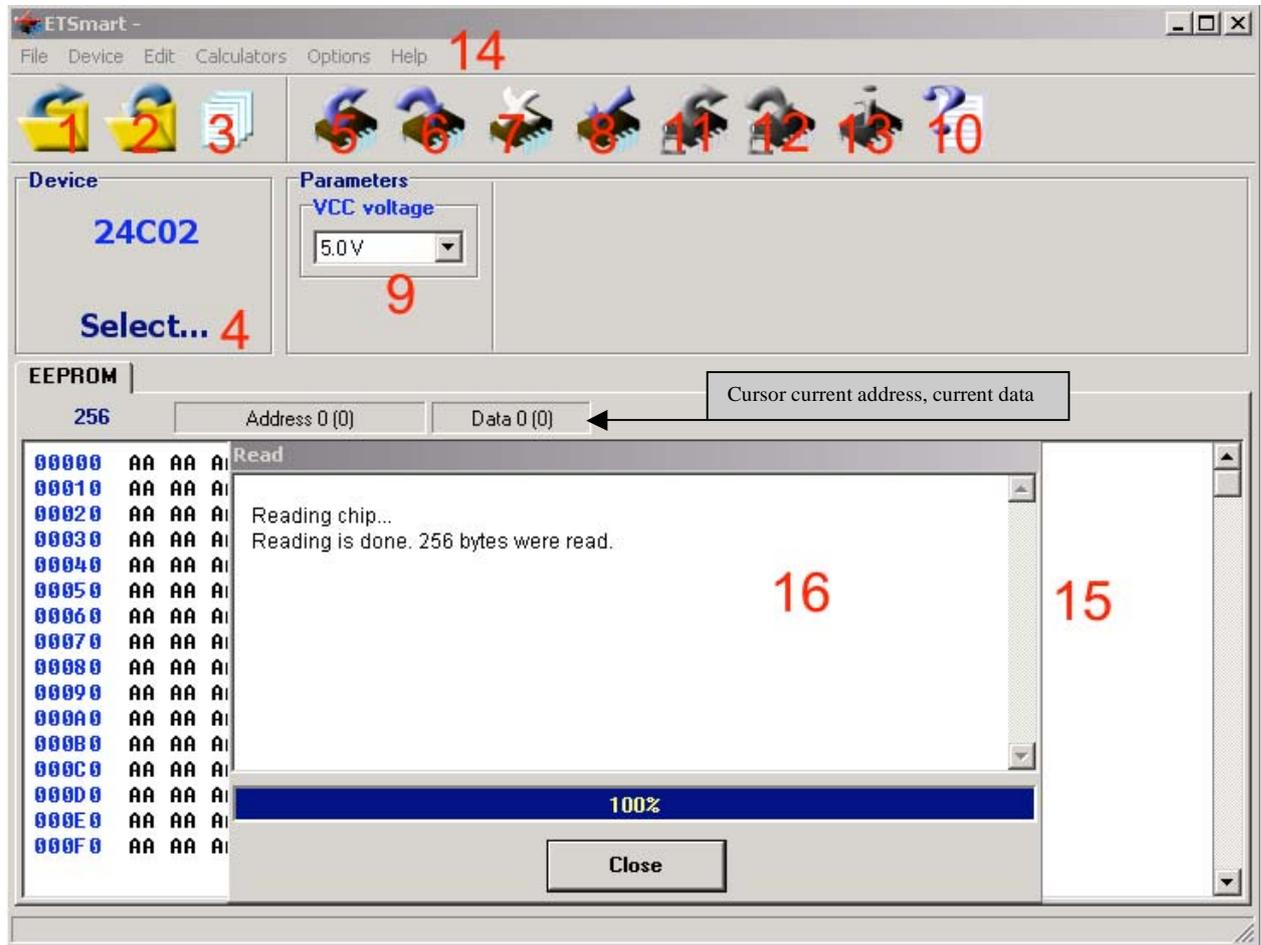
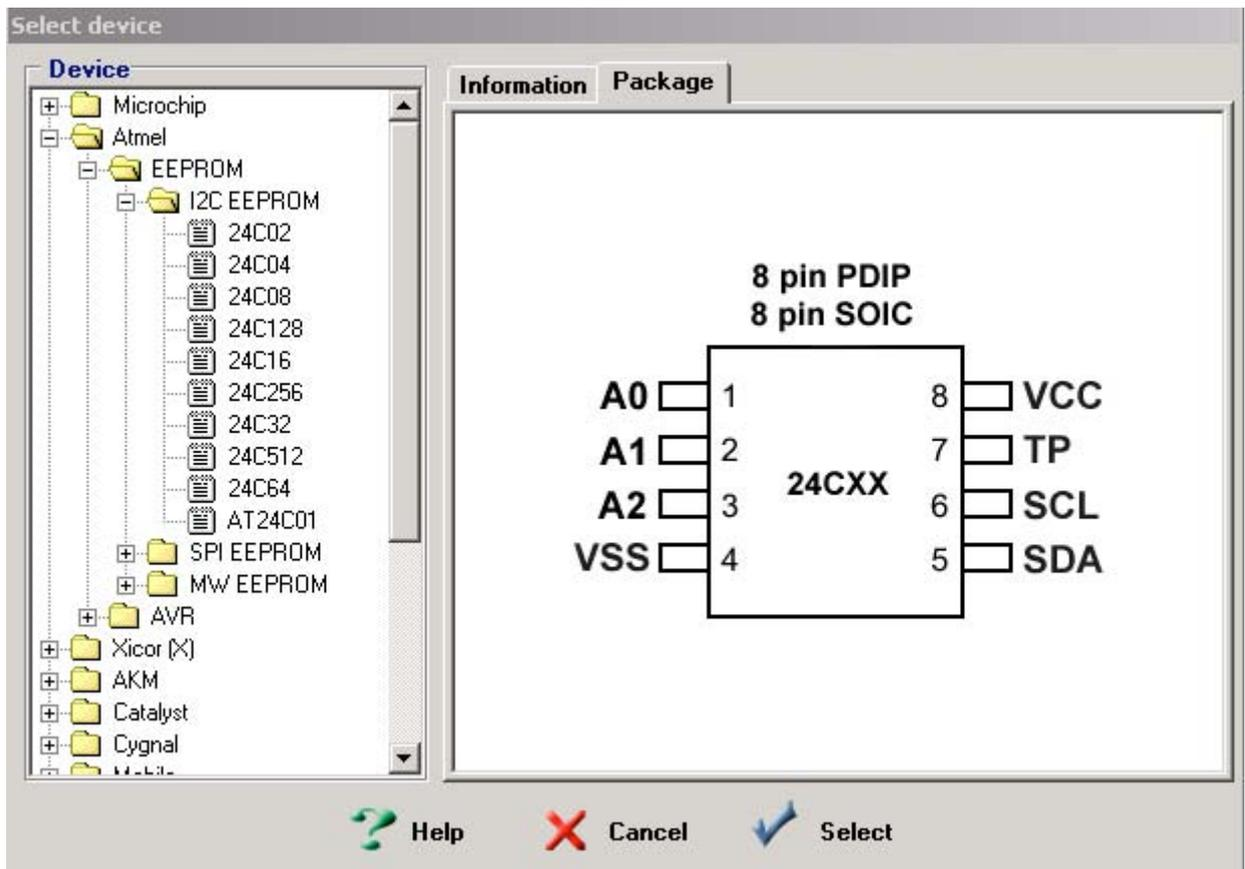
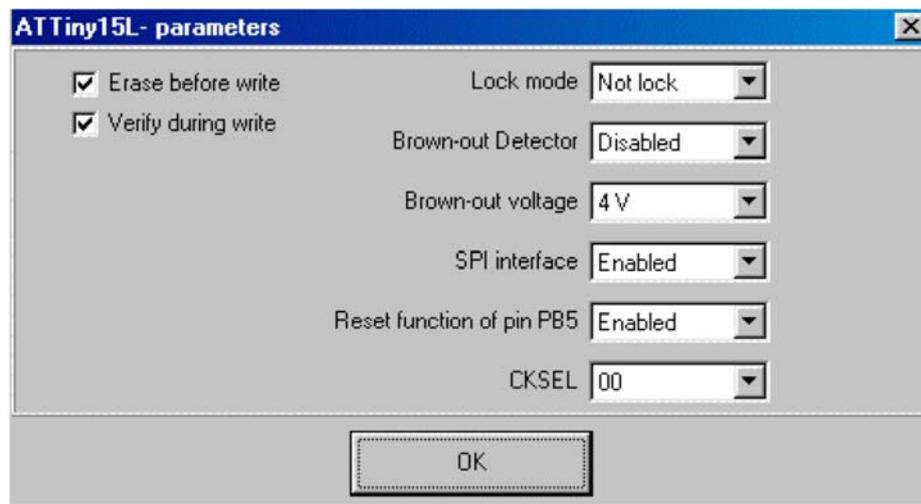

Figure 8. Users interface; Run time window
Figure 9. Select device window
Figure 10. Special parameters window
Select device first before start any (item 4, see Figure 8), so that the ETSMARTUSB could select the proper algorithm to the name and manufacturer of the devices (see Figure 9). Device and package information you should see in the right part of select device window. Some special devices, like microcontrollers have special requests in operation except the basic steps, which included special programming fuses for security protection, clock source selection and etc., these special information contain in the device's data sheets (device's manual) see Figure 10. Click "Open file" button or corresponding menu item. After device selection, the software will not identify the data type automatically, just select type of file manually according with corresponding extension. The editor supported three types of file formats as Binary (\*.bin), Intel HEX (\*.hex), Motorola S-Records (\*.s19). If the extension of the file unknown, choose All files e.g. \*.\*. As default start address starts from \$00 pointer. Uncorrected file offset address (like large offset address) may case data overflow in the buffer and system failure may occur. Click edit brings lower menu items. You may edit the buffer data like insert bytes, swap bytes, fill buffer, erase buffer, compare to other file. Loading mode normal, that's mean all files can be loaded. After edit buffer click "Save file" button, it will save the current edited data in the buffer to disk.
Program function (“Write device” button) writes the data from the buffer into the chip. The verify function (“Verify device” button) not verifying device during programming. Even if an errors occurs, the process will not be ceased. All errors, mismatches you should see into run time window (see Figure 8). The processes of operation indicated via status bar. Click “Close” button when operation is finished. “Dump Library” menu command allow to load files from library, device selection for this case not necessary, because type of target device recalled from library. “Calculators” menu command included useful algorithms for car radios.